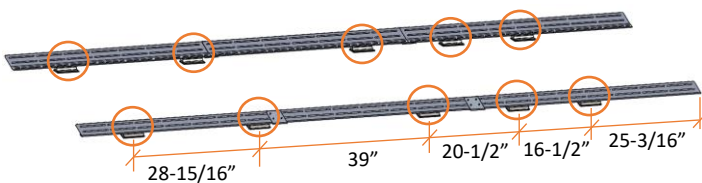

Figure 3: Mounting Bracket Locations
2. Fasten mounting brackets to side rail subassemblies completed in Step 1 at the following locations referenced in Figure 3. Use the 5/16" hardware and reference Figure 4 for proper placement.